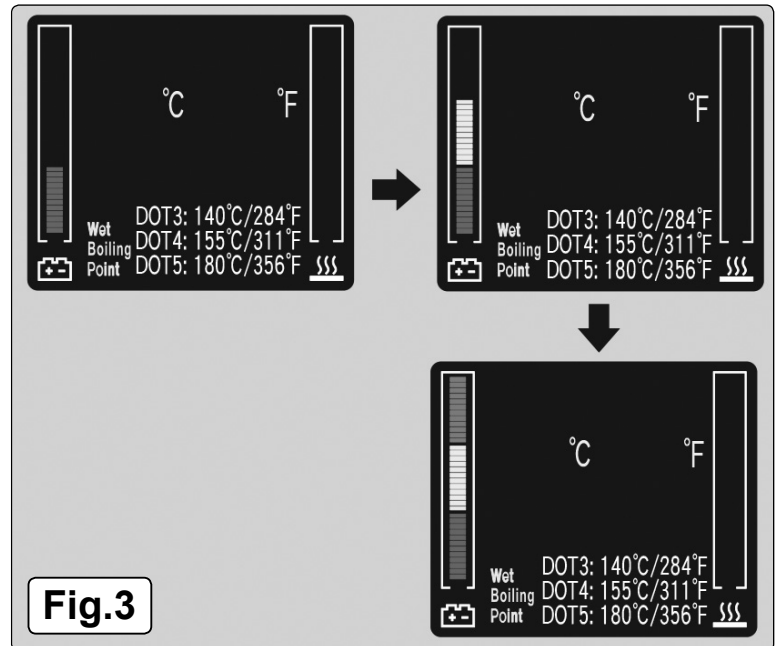

Fig.3
- 4.6.3. LCD display refer to fig.3.